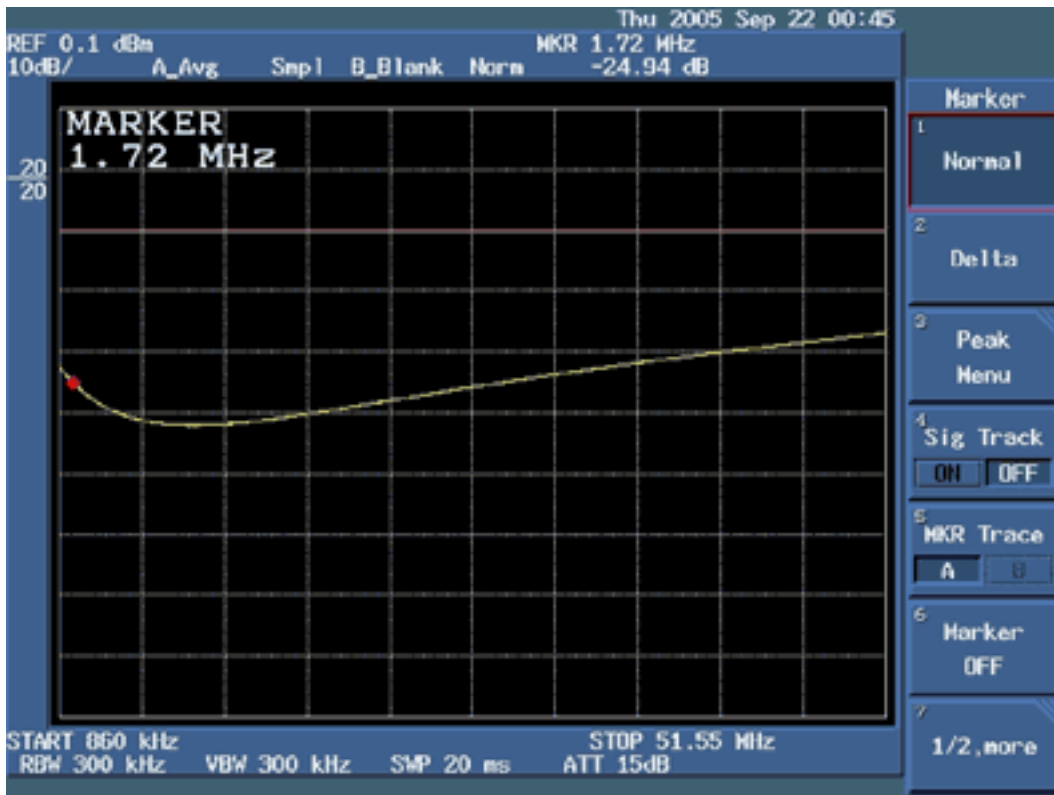

Figure 11. Return loss of the DUT at 1.72MHz.
9. Measure the return loss at **1.72MHz** for the DUT, as shown in **Figure 11**.